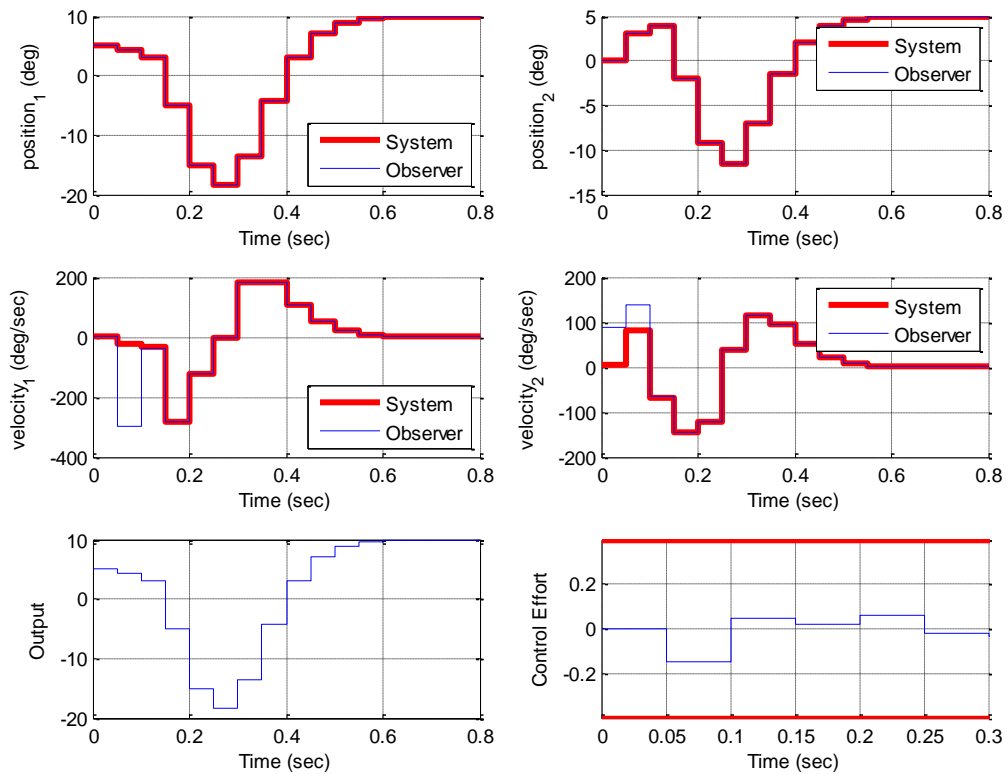

Figure 9. Results for problem 3d.
d) Same conditions as **b**, but now the positions of both disk 1 and disk 2 are known (the output is the position of the first disk). Place the state feedback poles all at 0.2 and the observer poles at [0.01 0.015 0.02]. For a 10 degree step input you should get the graph shown in Figure 9. Turn in your plot.